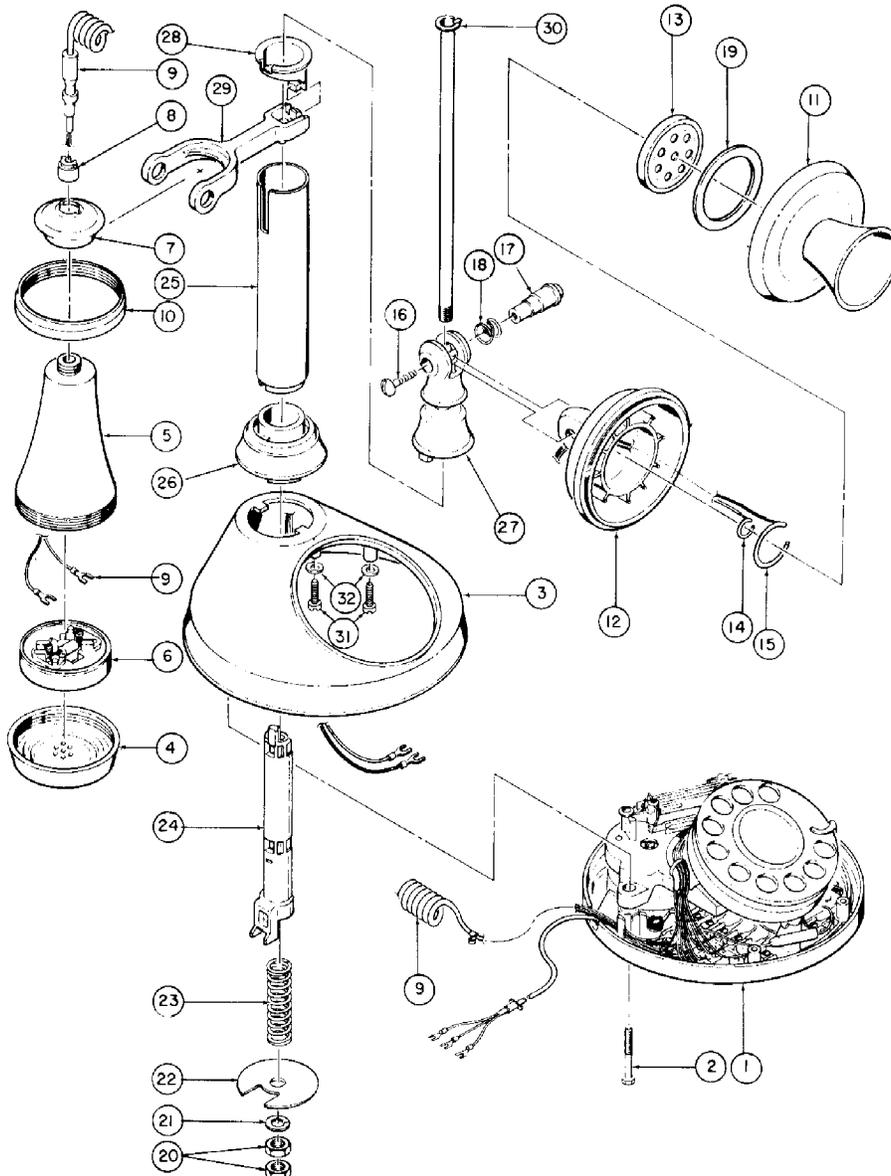

Figure 7. Candlestick Telephone.
6.08 To remove the earpiece cord (Figures 7 and 9) and line cord (5), unhook the strain relief clamps from the post on the base and disconnect the leads from the terminals in the base.
7.01 To assemble those components that mount on the base, refer to Figure 8 and Table 8. To assemble the housing, transmitter, and earpiece, refer to Figure 7 and Table 7.
- 7.07 To assemble the housing and column, proceed as follows (Figure 7 and Table 7):
- (a) Insert the actuator guide tube (30) into the upper column fitting (27).
- (b) Fit the hook (29) and hook support (28) together and insert into the top of the column (25). Slide this assembly over the actuator guide tube.
- (c) Place the lower column fitting (26) on the column (25).
- (d) Position the actuator sleeve (24) inside the column (25).
- (e) Insert the actuator spring (23) into the actuator sleeve (24).
- (f) Position the housing (3) on the lower column fitting (26).
- (g) Position the housing washer (22) inside the housing, and secure the whole column assembly with the lockwasher (21) and two nuts (20).